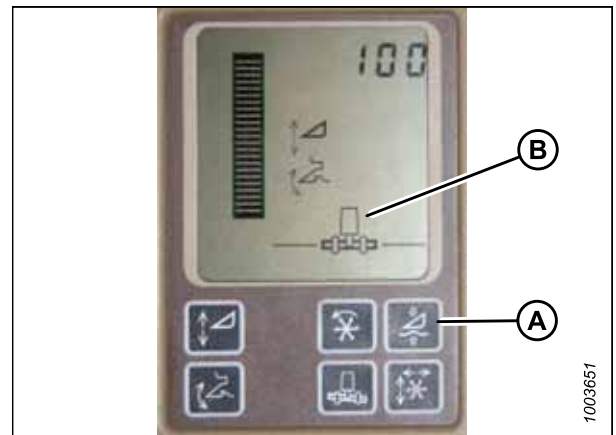

Figure 3.702: John Deere Combine Display
Do **NOT** use active header float function (A) in combination with the MacDon auto header height control (AHHC)—the two systems will counteract one another. Header symbol (B) on the display should **NOT** have a wavy line under it and should appear exactly as shown on the Active Header Control Display in Figure 3.702, page 437.